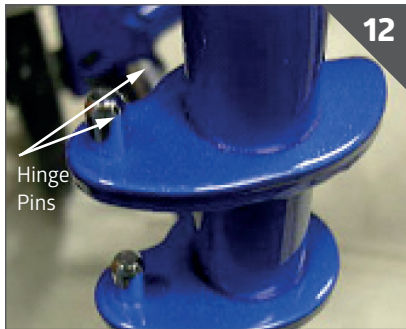

Figure 12
2. Install the legrest assembly hinge plates onto the hinge pins of the frame (Figure 12/13).